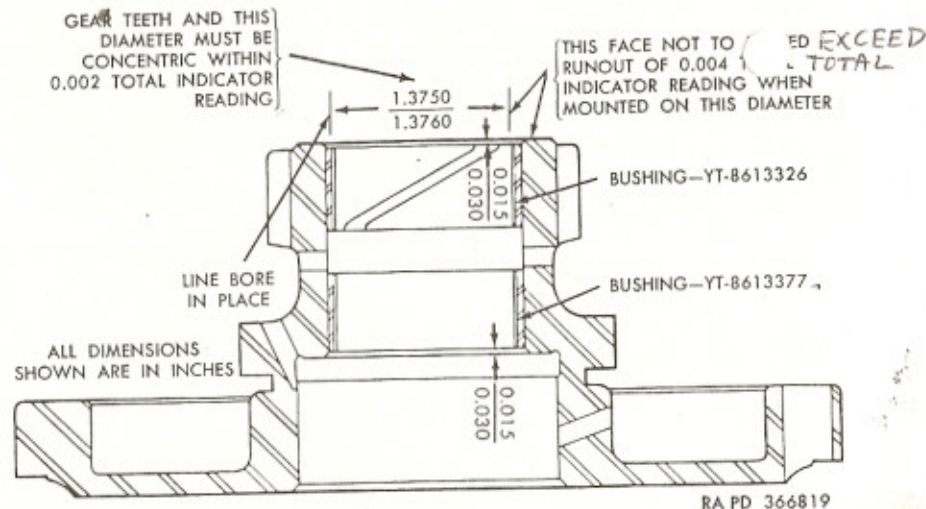
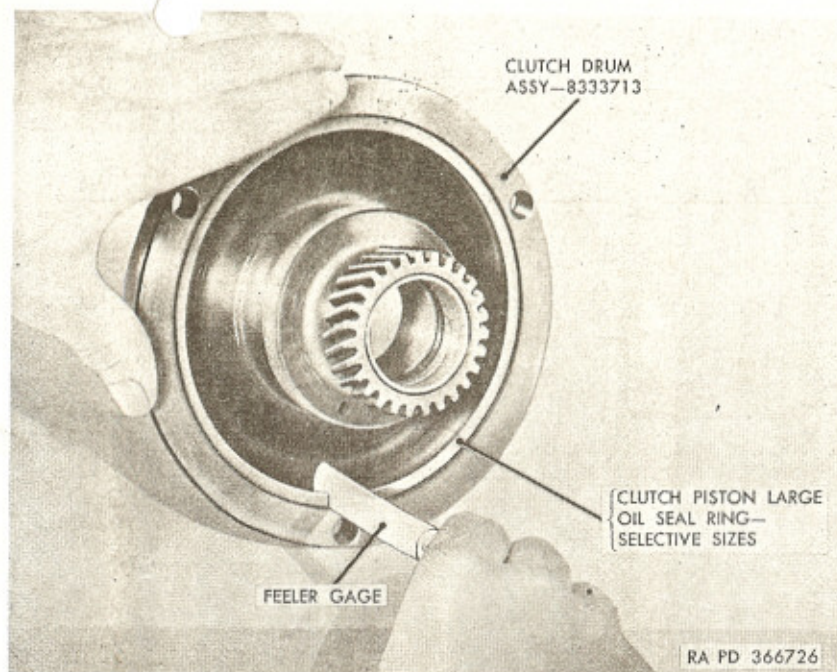

Figure 109. Section view of front clutch drum assembly.
Figure 110. Checking front clutch piston large oil seal ring gap.
groove for damage. Check wear of bushings. If necessary to replace bushings, proceed as shown in (a) through (d) below (fig. 109).
- (b) Press inner bushing into drum with chamfer toward inside. Press only to dimensions shown (fig. 109).
- (c) Press outer bushing (with oil groove) into drum to dimensions shown in figure 109.
- (d) Finish inside diameter of both bushings to dimensions shown in figure 109.
- (7) Check front drum assembly (A) for scores and damage. Examine drum for scores at band and clutch plate contact surfaces. Inspect drum pins. If pins are loose, bent, or excessively scored, replace drum and pin assembly.
- (8) Inspect clutch piston oil seal rings (G and H) for damage and for freeness in grooves of clutch piston and drum.
- (9) Insert large clutch piston oil seal ring (H) squarely in clutch drum as shown in figure 110; then using a feeler gage, check ring gap. Ring gap should be 0.001 to 0.011 inch at outside diameter of ring. If gap is not within limits, use next selective size oil seal ring. See table VI. Size of oil seal ring is indicated by color on outside diameter of ring.